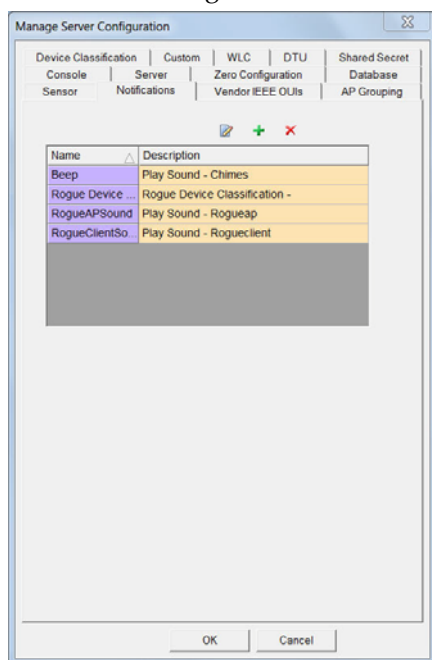

Figure 13-5: Configuring notification list
- 1) From the Manage Server Configuration screen, click the Notifications tab. The Manage Server Configuration screen refreshes. See Figure 13-5.